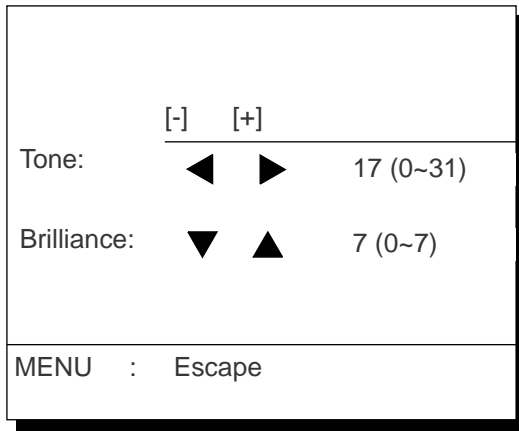

Figure 1-3 Screen for adjustment of display contrast and brilliance
- 1) Press the **TONE** key. The display shown in Figure 1-3 appears.